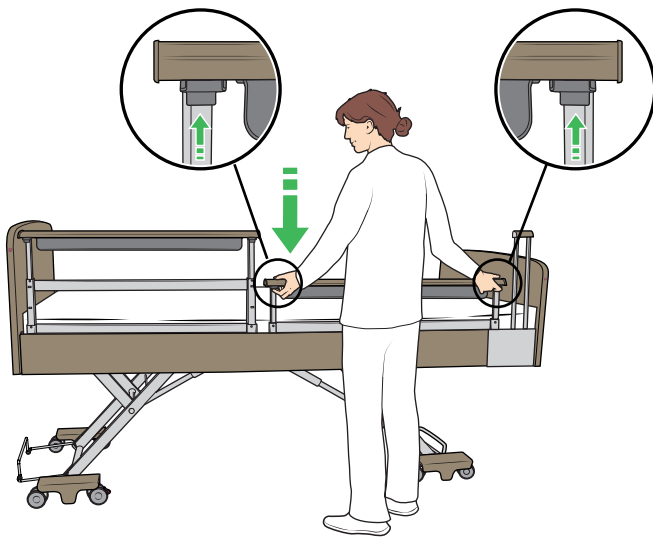

Figure 60
1. Press and hold the buttons and lower the telescopic bed rail to the lowest position. See Figure 60.